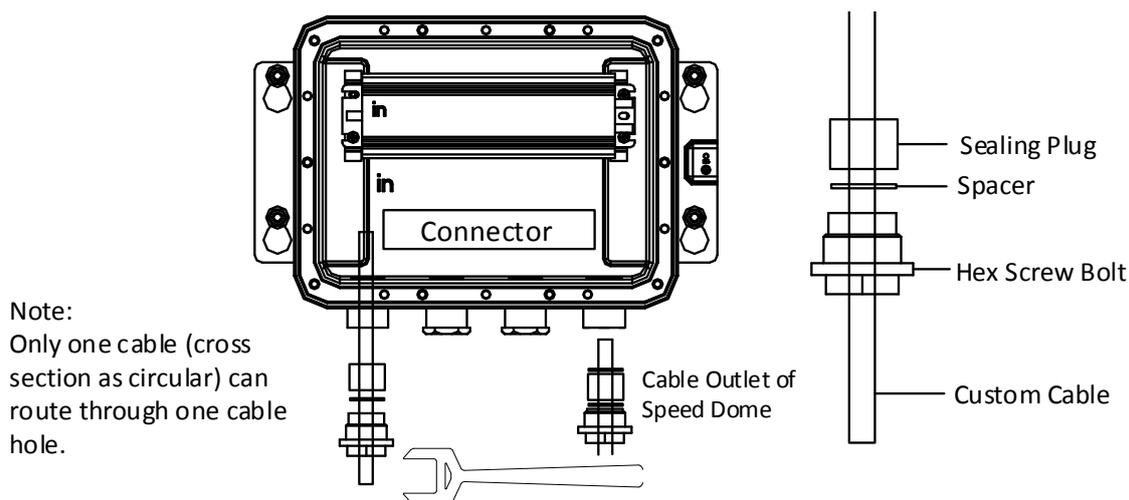

Figure 3-55 Interface of Custom Cables
2. Route the cables through the connectors. Make sure each cable is routed through one cable hole only and all terminals are tightly sealed with waterproof adhesive, as shown in Figure 3-55.